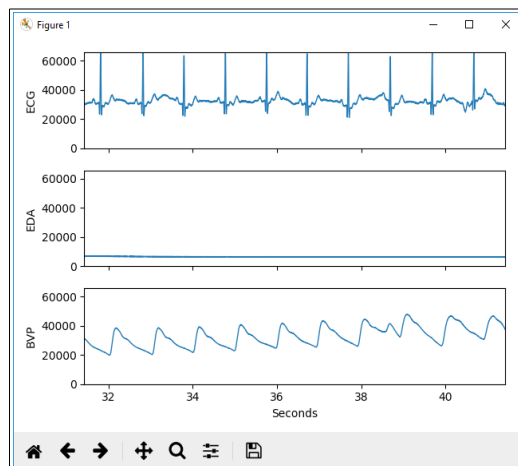

Fig. 2: BioLink Life Plot Window
- **Life Plot (see Fig. 2):** This can be disabled to save processor power (‘Paint Life Plot’). Automatic reopening of the life plot window during the experiment can be disabled (‘Reopen Life Plot if closed’).
- Once a subject ID is received and the experiment starts, the Life Plot opens (see Fig. 2, only if activated), showing the current data received from the acquisition device. The different plots can be zoomed independently of one another by clicking on the 'zoom rectangle' button (toolbar at bottom of window).